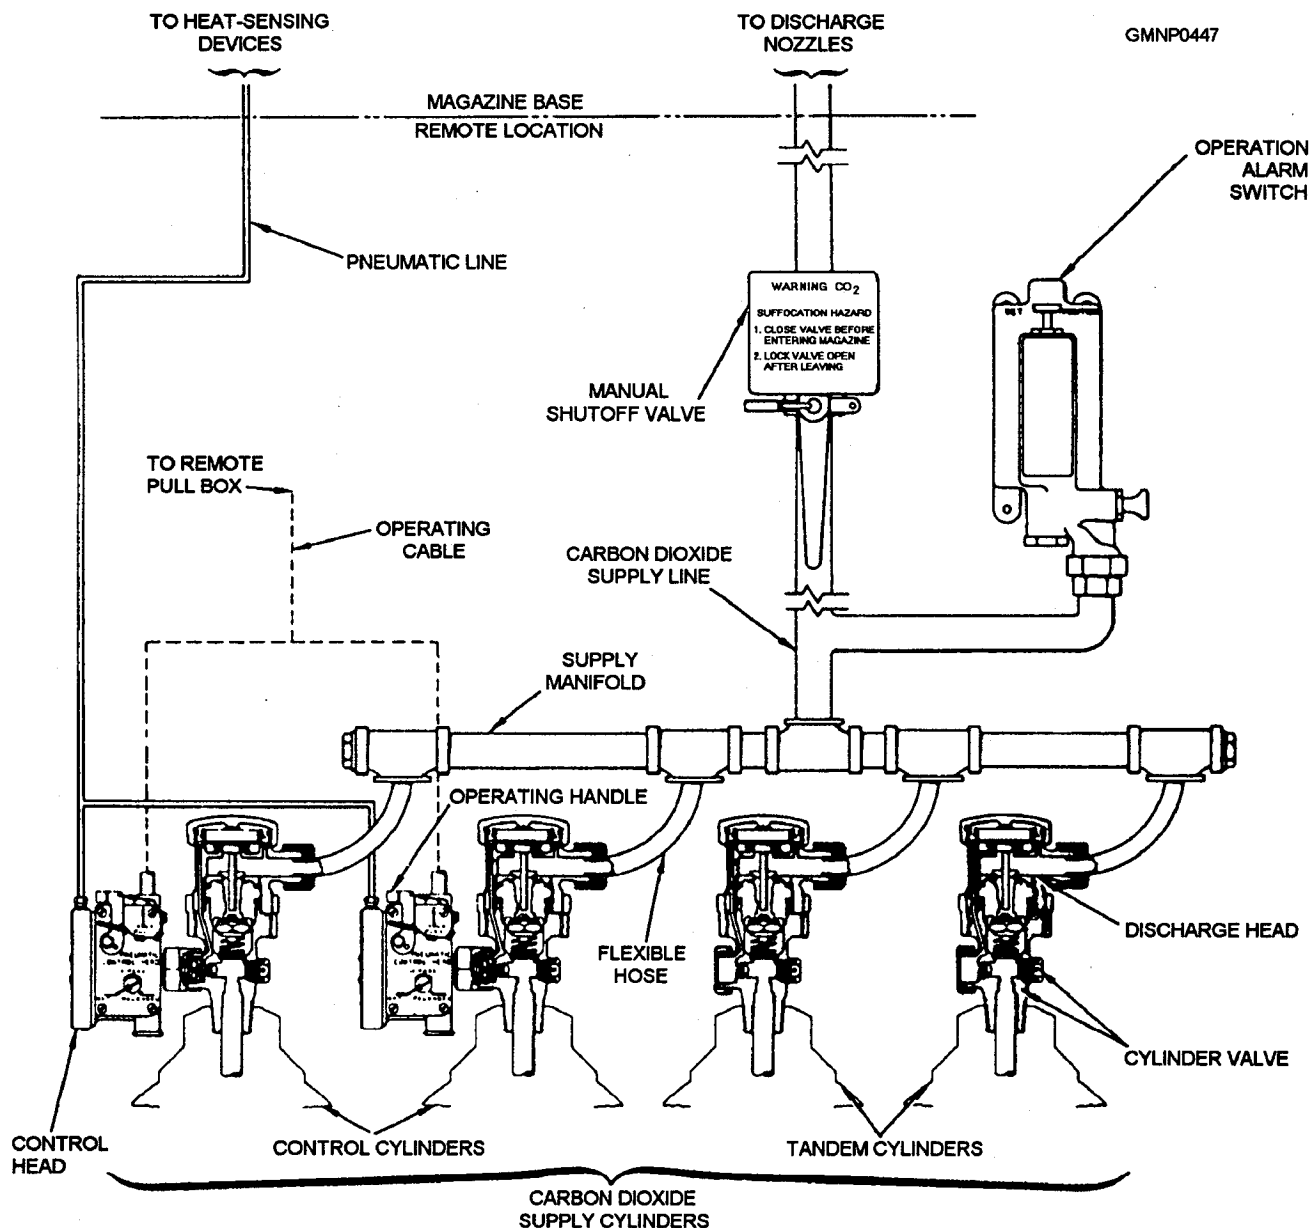

Figure 8-21.—Components of a CO2 system; outside magazine structure.
**SUPPLY CYLINDERS.**— GMLS fixed CO2 systems usually have at least two supply cylinders. Each cylinder has a 50-pound CO2 capacity and weighs 165 pounds when fully charged. It contains liquid carbon dioxide under a pressure of 850 psi at 70°F. Each cylinder of the system has a discharge head and a cylinder valve. At least one of the cylinders will also have a pneumatic control head. The other cylinder(s) will be in tandem with the main control cylinder(s). See figure 8-21.
**Pneumatic Control Head.**— A pneumatic control head (shown in fig. 8-21) reacts to HSD pressure signals or to manual operating levers. The control head is tripped to open the discharge head and cylinder valve, which release the liquid CO2 from the cylinder. The control head consists of an air chamber with a diaphragm. The control head also has two plungers,
When the plungers from the “tripped” control head open the pilot seat, CO2 flows into the chamber above the discharge head piston. The piston is shifted (down) against its spring. The ball check valves trap gas pressure in the upper chamber. This keeps the piston open (down) and ensures rapid and complete cylinder discharge. Shifting the piston opens the cylinder valve, allowing CO2 to flow to the exhaust manifold and supply lines. (See fig. 8-21.)
**MISCELLANEOUS COMPONENTS.**— A manually operated shutoff valve is installed in the CO2 discharge line between the supply cylinders and discharge nozzles. (See fig. 8-21.) The valve is physically located outside the magazine near its entrance. To avoid a CO2 suffocation hazard, unlock the valve and close it before you enter the magazine. If the system should activate, the supply cylinders will release CO2. However, the closed valve will stop the CO2 so that you can keep breathing.
CO2 pressure entering the supply line activates an operation alarm switch (fig. 8-21). Audible alarms and lights are turned on, signaling that the CO2 system has activated. These warning devices are usually located